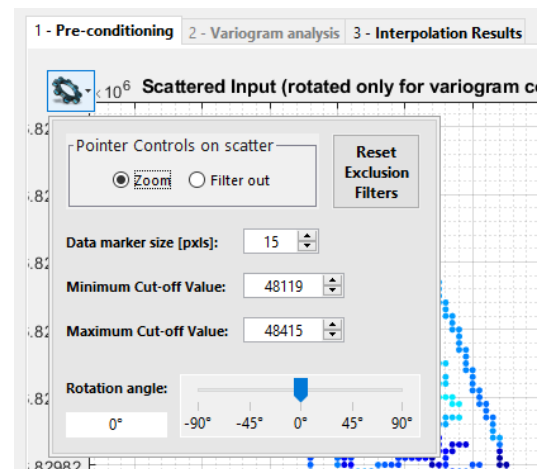

Figure 120: Normal data filtering tools.
After selecting input data, the dropdown  button enables to have access to filtering tools from the related axes, named *Scattered Input* in the *Pre-conditioning* tab. See Figure 120.
- Draw exclusion polygons to evict outliers (see Figure 120 – *Filter out* check box),